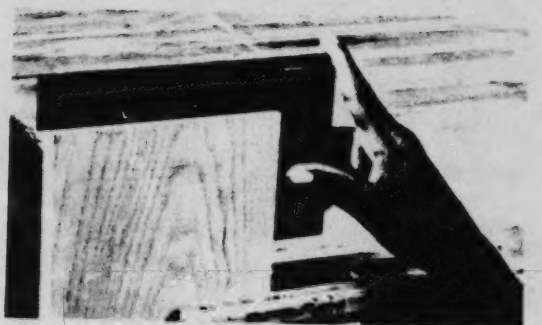

Figure 5-25 Checking for squareness
7. Check the squareness of the ends as shown in Figures 5-25 and 5-26.